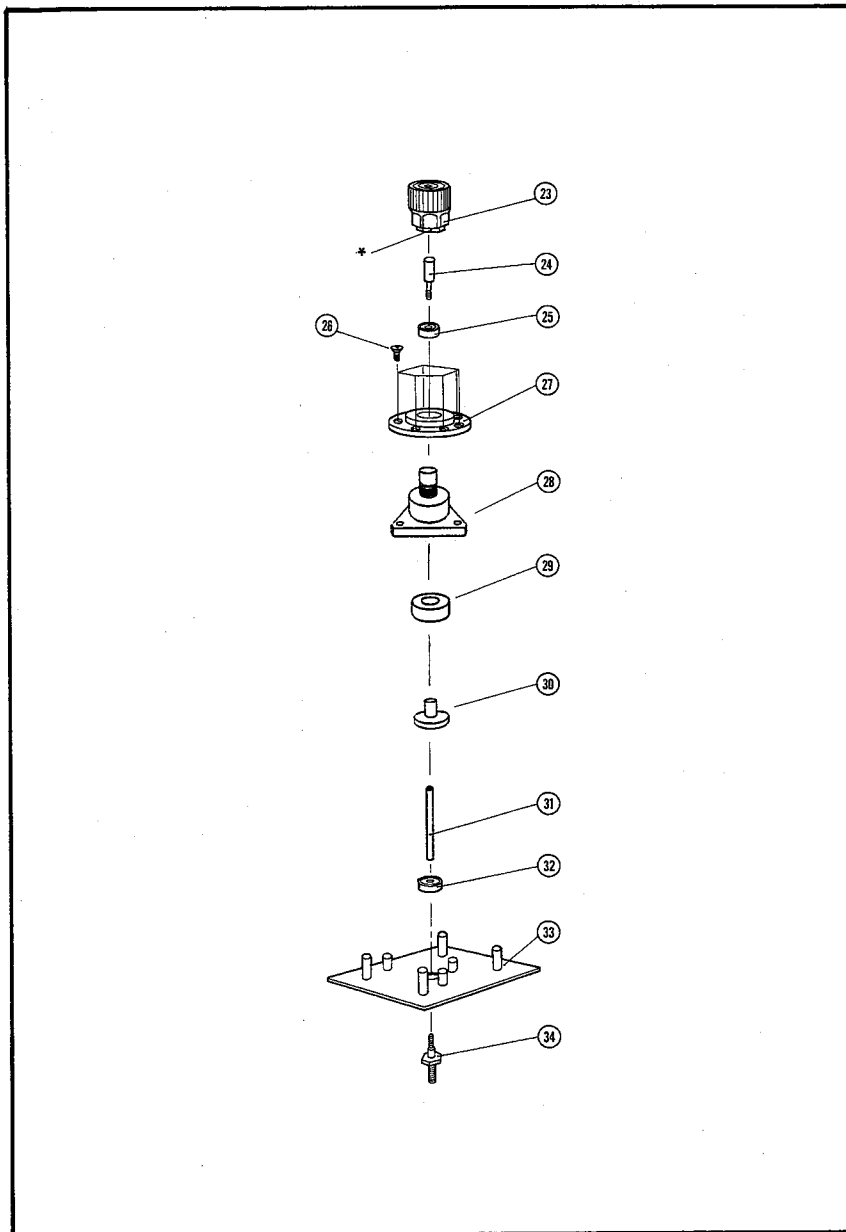

Figure 2. Exploded View of APC-7 RF Connector Assembly
This operation note provides the information necessary to use and service the HP 16085B Terminal Adapter. The specifications for the 16085B are listed in Table 1. An exploded view of the 16085B, for parts identification and assembly/disassembly, is shown in Figure 1. Figure 2 shows an exploded view of the APC-7 connector.
To maintain optimum contact between the APC-7 connector contact and the test fixture, replace the RF connector contact (PN 1250-0816) every 1000 connections/disconnections or as required by wear or damage). An exploded view of the RF connector contact and its replacement procedure are shown in Figure 2.
- (1) Rotate the APC-7 connector (PN 1250-1466) counterclockwise until the (*) marked portion appears.
- (2) Use a 12mm wrench and turn the connector counterclockwise to remove it.
- (3) The RF connector contact (PN 1250-0816) is now exposed as shown in Figure 2.
- (4) The RF connector contact can be removed by turning it counterclockwise using a pair of needle-nose pliers with protective rubber pads on the tips.